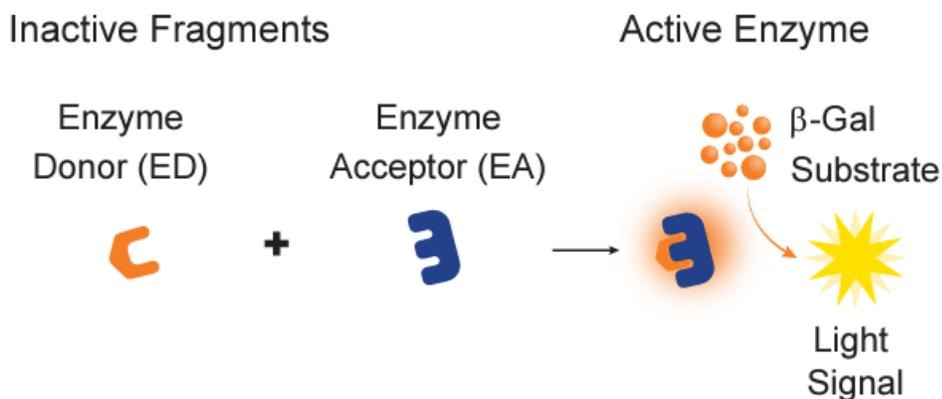

Figure 1. Enzyme Fragment Complementation (EFC) technology
The SPRINTer assay utilizes the established Enzyme Fragment Complementation (EFC) technology. EFC uses a split β -galactosidase (β -gal) enzyme, which consists of the Enzyme Donor (ED) and the Enzyme Acceptor (EA) fragments. Independently, these fragments have no β -gal enzymatic activity. However, when the 2 fragments are brought in close proximity, (e.g., as a result of protein-protein interaction) they are forced to complement and form an active β -gal enzyme that can then hydrolyze a chemiluminescent substrate to produce a light signal. This is represented/illustrated in Figure 1 below.